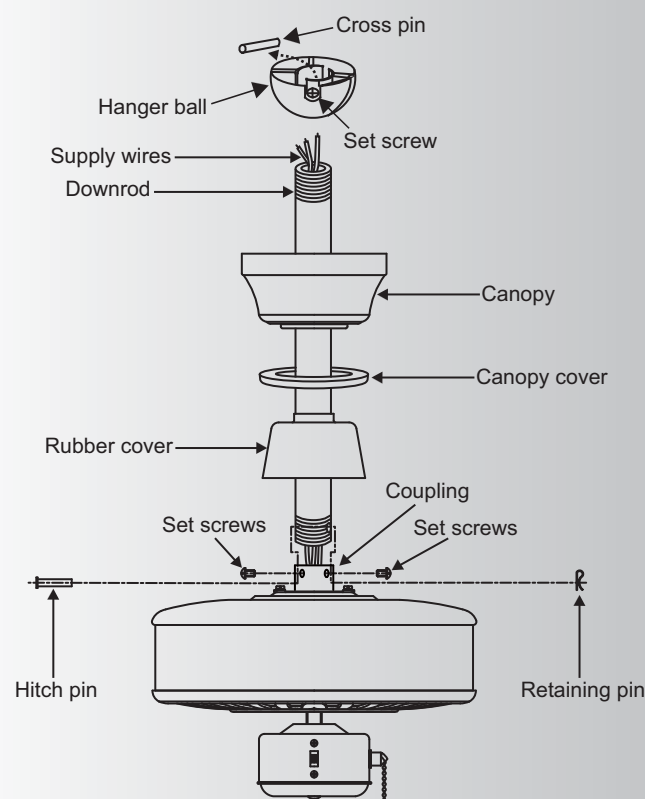

Fig. 7
Step 1. Remove the hanger ball from the downrod assembly by loosening the set screw, removing the cross pin and unscrewing the ball off the rod. (Fig. 7)
Step 2. Loosen the two set screws and remove the hitch pin and retaining clip from the coupling on top of the motor assembly. (Fig. 7)
Next, replace the hitch pin and retaining clip. Tighten both set screws. (Fig. 7)
Thread the hanger ball onto the downrod, insert the cross pin through the downrod and tighten. Now tighten the set screw. (Fig. 7)